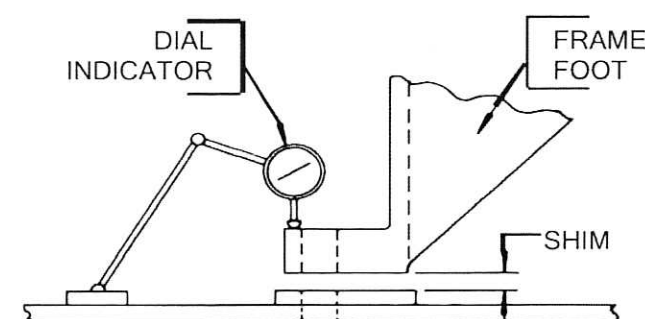

FIGURE 1 - FINAL SHIMMING
- At each foot where a space exists between foot and skid, place a dial indicator on the frame foot and skid as shown in FIGURE 1. Set dial to ZERO.